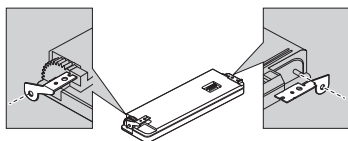

Fig. 10
1. Attach the holders to both sides of the front panel. (Fig. 10)